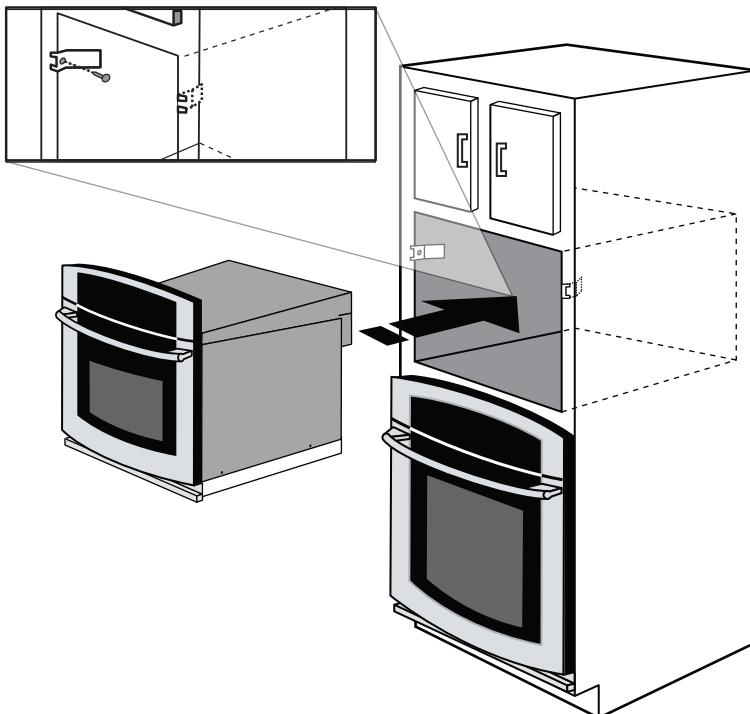

Figure 4
3. Place the oven adjacent to the opening on a table or stand. Plug the power supply cord into the electrical outlet. Carefully guide the oven into the prepared opening. Avoid pinching cord between oven and wall. See Figure 4. Push the unit in and against the cabinet. The oven side bracket will clip into the Anti-Tip brackets. See Figure 3.